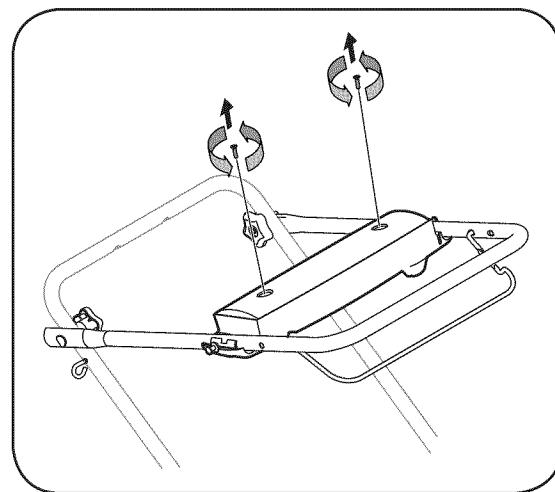

Figure 5-6
1. Loosen round handle knobs securing upper and lower handles and carefully fold the upper handle down toward the lower handle as shown in Figure 5-6.
2. Remove the two screws securing battery cover to battery housing and place them to the side. See Figure 5-6.
1. Open the battery cover as described in **Replacing Battery.** See Figure 5-6.